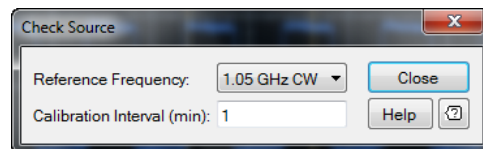

Figure 2-136 Check Source dialog
- 2 The Check Source dialog is displayed as shown in Figure 2-136 to allow you to configure the check source settings.